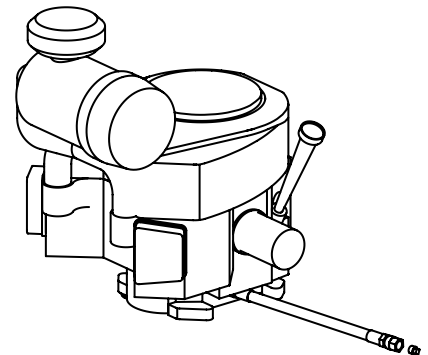

Figure 34
2. Locate the oil drain hose on the engine. See Figure 34.
5. While holding the free end of the oil drain hose over the oil collection container, unscrew the square-head hose plug from the end of the hose. See Figure 34. Drain the engine oil into the collection container.